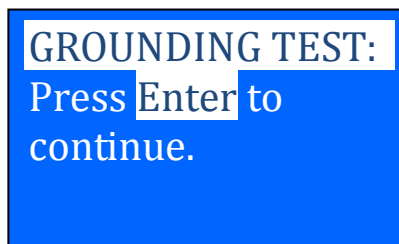

Figure 36
9. Once the Black clip is clamped onto the battery [-] terminal, the Analyzer display will light up as shown. (Fig. 36)